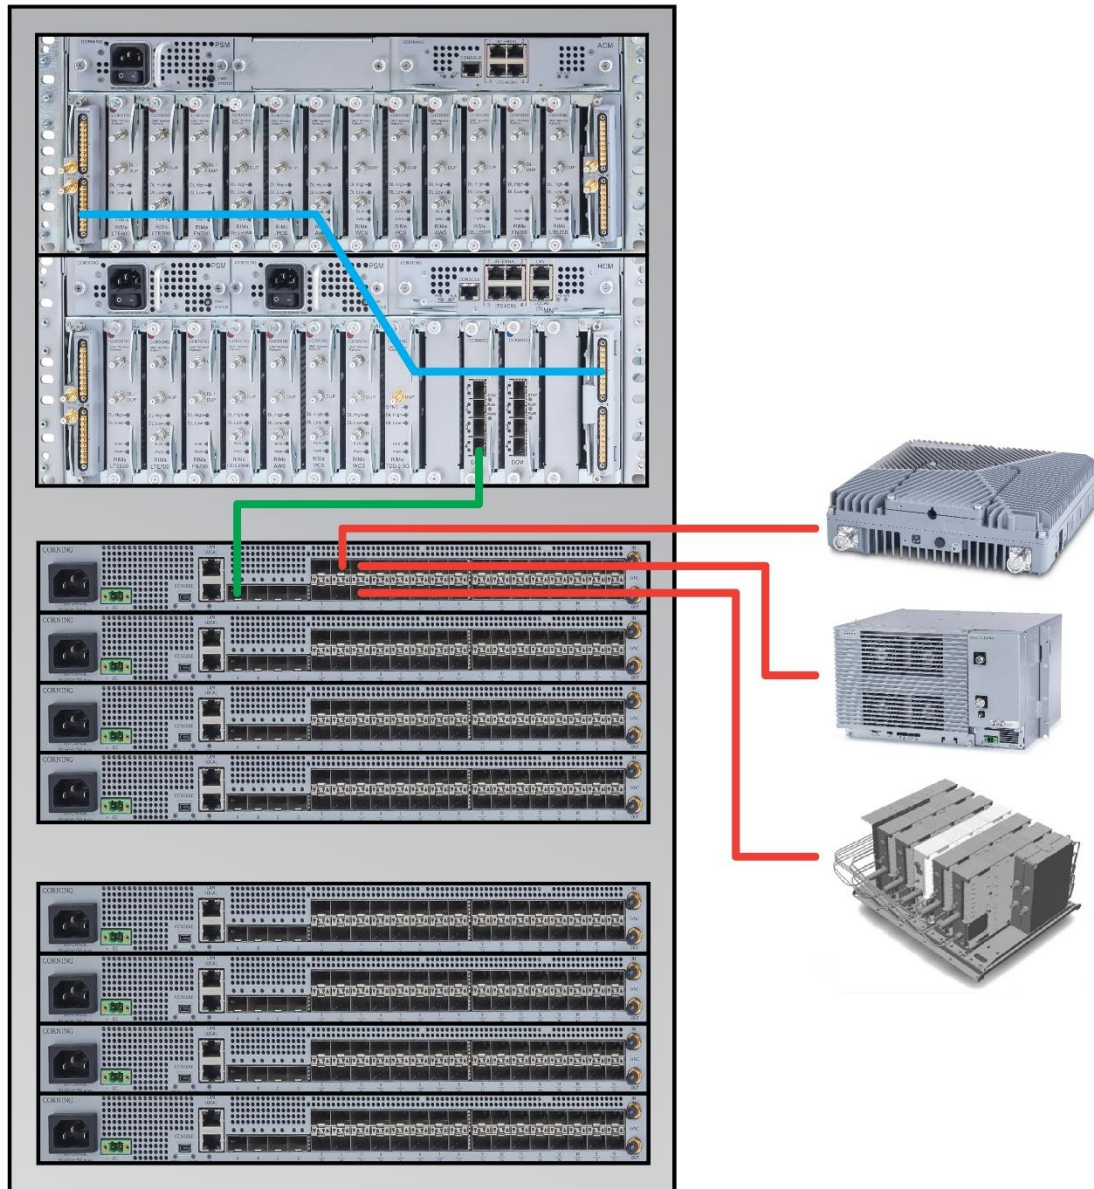

Figure 10: Example: Installation Diagram
1. Determine the location of the HEU in the rack while considering additional HEU and IHU units and the lengths of the available ERFC cable (see Figure 10: Example: Installation Diagram for an example configuration)
- The REF IN and REF OUT pilot clock ports must be connected in a closed loop as shown in Figure 10
- Referring to Figure 10- for configurations with one HCM and more than four ACM modules (e.g. 4x4 HEU-OIU configurations) where there are only four available HCM INTERNAL ports